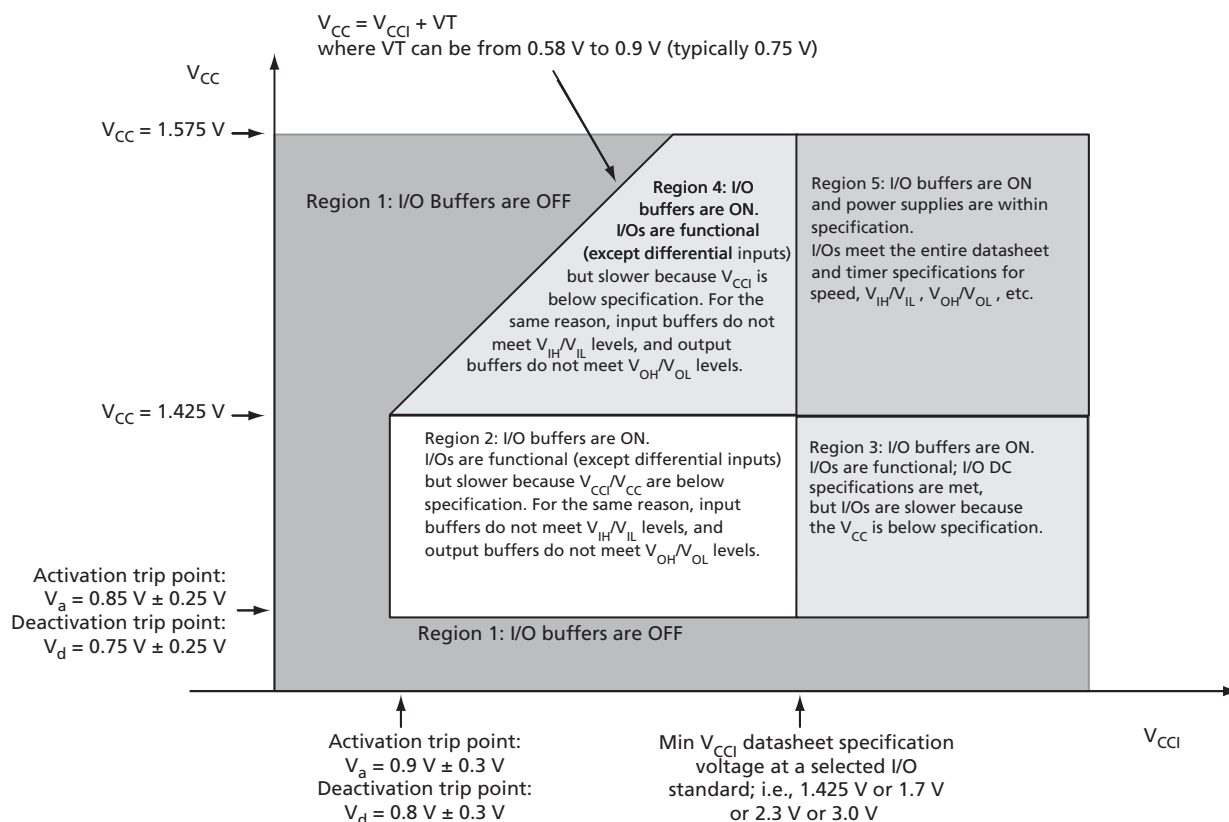

Figure 2-1 • I/O State as a Function of V_{CCI} and V_{CC} Voltage Levels
Sophisticated power-up management circuitry is designed into every ProASIC[®]3 device. These circuits ensure easy transition from the powered-off state to the powered-up state of the device. The many different supplies can power up in any sequence with minimized current spikes or surges. In addition, the I/O will be in a known state through the power-up sequence. The basic principle is shown in Figure 2-1 on page 2-4.
1. V_{CC} and V_{CCI} are above the minimum specified trip points (Figure 2-1 on page 2-4).
Actel recommends using monotonic power supplies or voltage regulators to ensure proper power-up behavior. Power ramp-up should be monotonic at least until V_{CC} and V_{CCPLLX} exceed brownout activation levels. The V_{CC} activation level is specified as 1.1 V worst-case (see Figure 2-1 on page 2-4 for more details).